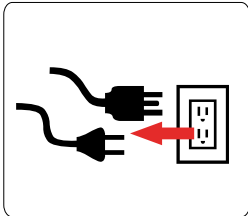

Fig 13
- All loads **MUST** be disconnected from the generator. Never start or stop the engine with electrical devices plugged in to the receptacles. (See fig 13)